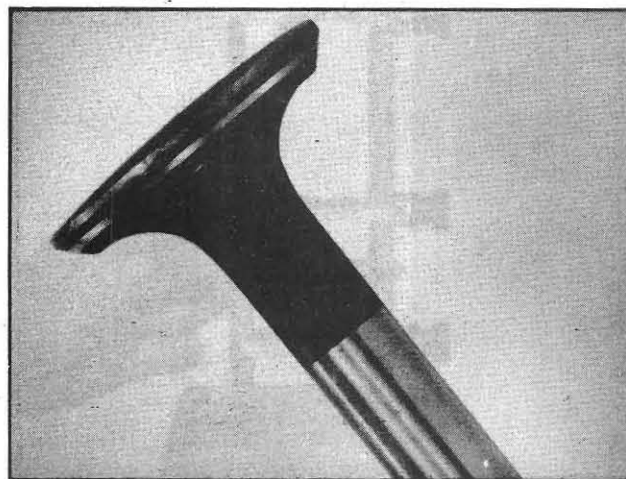

Fig. 46
4. The width and location of the contact area are the next things that should be checked. Apply a light coat of prussian blue to the face of the valve, insert it into its seat and turn it through an angle of 10 to 15 degrees. The area of the valve face from which the blue has been removed will indicate the width of the seat and its location on the face, see Fig. 46. The contact area must fall in the middle of the face so that the two sharp edges of the seat may chip away any carbon or lead deposits which might interfere with the sealing action. If the contact area is too